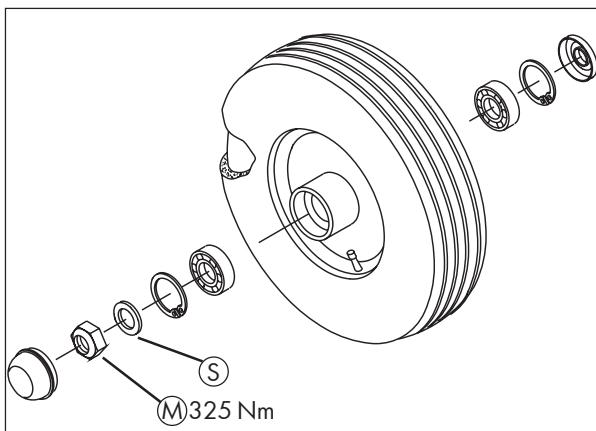

Fig. 3-2
Attach the wheels for the main chassis to the axle stubs. Then bolt the wheel onto the axle stub using Ø21 mm washer (S) and M20 nut (M) and fit the hub cap on the rim (fig. 3-2). Use the content of bag D.